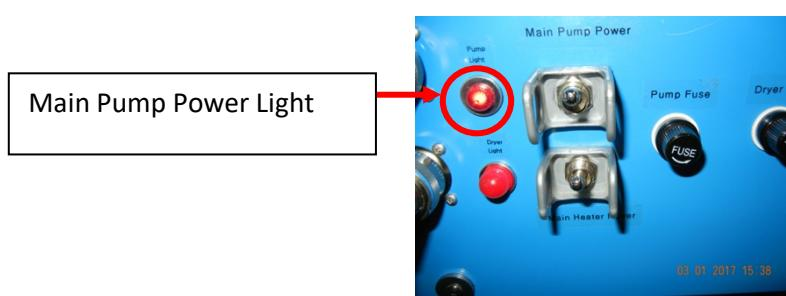

Figure 10: Main Pump Power Switch
- 4.3 Flip Main Pump Power switch on Water Recovery System (WRS) (located to right of SPE System) to “ON” (see Figure 10).